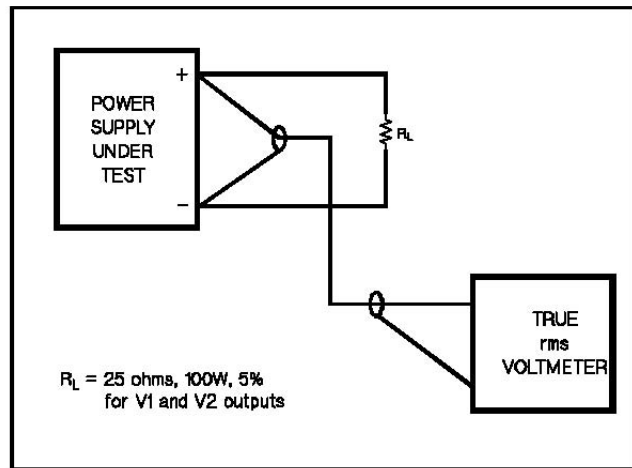

Figure 1-9 Ripple and Noise rms Measurement Test Setup
- 1** Connect the test equipment across the output of the V1 supply as shown in **Figure 1-9**.
- 5** e.Repeat steps (1) through (4) for the V2 supply.
- 1 Connect the test equipment across the output of the V1 supply as shown in Figure 1-9, but replace the true rms voltmeter with the oscilloscope.
- 6 Repeat steps (1) through (4) for the V2 supply.